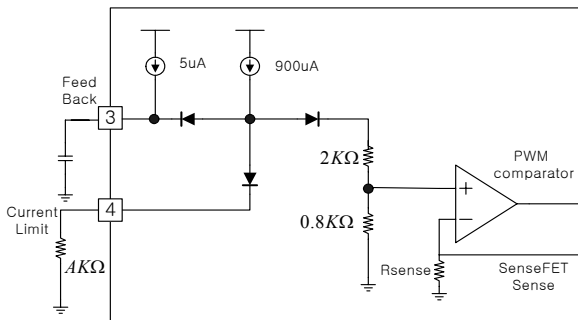

Figure 13. Peak current adjustment
8. Adjusting Current limit function: As shown in fig 13, a combined $2.8\text{k}\Omega$ internal resistance is connected into the non-inverting lead on the PWM comparator. A external resistance of A on the current limit pin forms a parallel resistance with the $2.8\text{k}\Omega$ when the internal diodes are biased by the main current source of $900\mu\text{A}$.